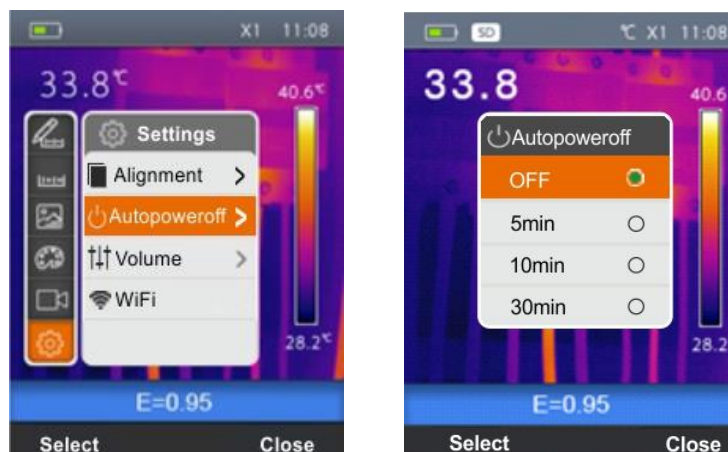

Fig. 14: Setting the alignment distance
1. Select the item “Auto power-off” using the keys \oplus or \ominus and press the key \Rightarrow . The screen Fig. 14 – Right side is shown on the display